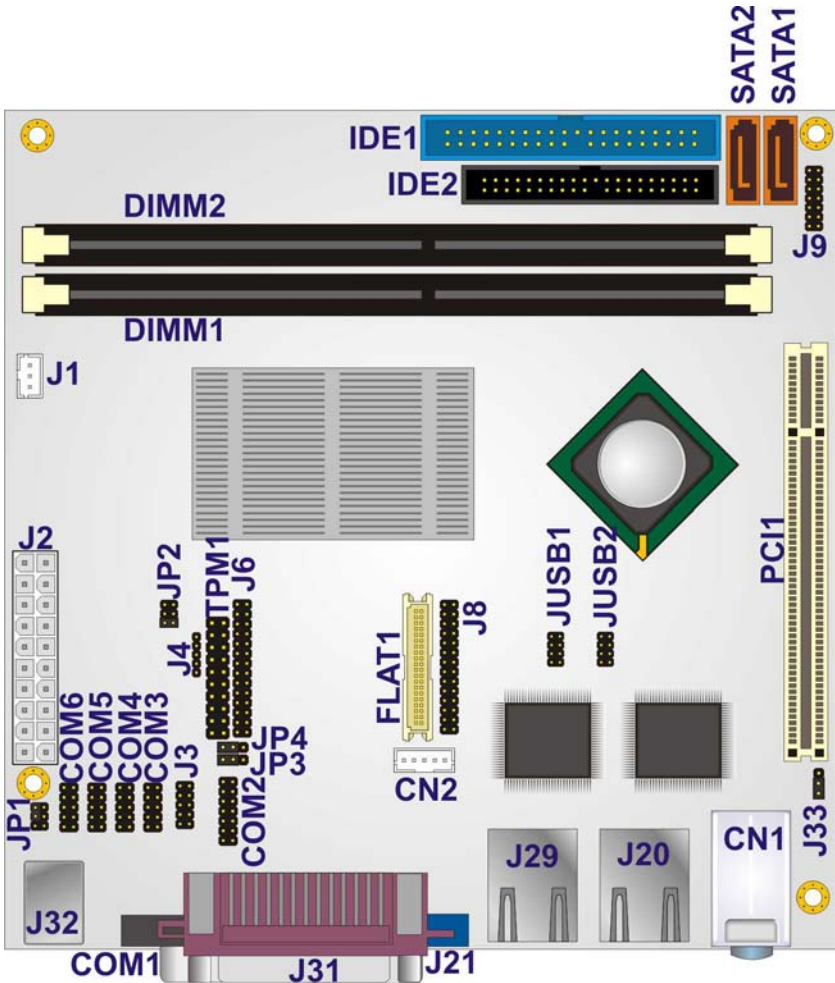

Figure 4-1: Connector and Jumper Locations
**Figure 4-1** shows the on-board peripheral connectors, rear panel peripheral connectors and on-board jumpers.